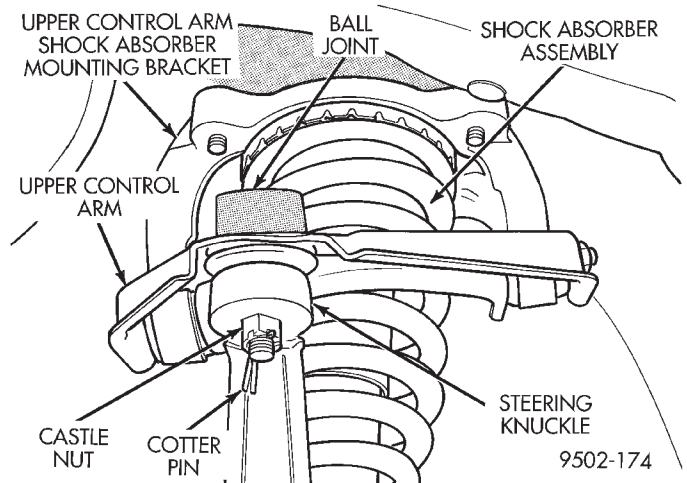

Fig. 12 Ball Joint Attachment To Steering Knuckle
(4) Remove the cotter pin and castle nut (Fig. 12) from the upper ball joint stud.
(14) Install upper ball joint stud into steering knuckle. Install castle nut on ball joint stud. Tighten nut to a torque of 55 N·m (40 ft. lbs.). Install cotter pin in ball joint (Fig. 12).